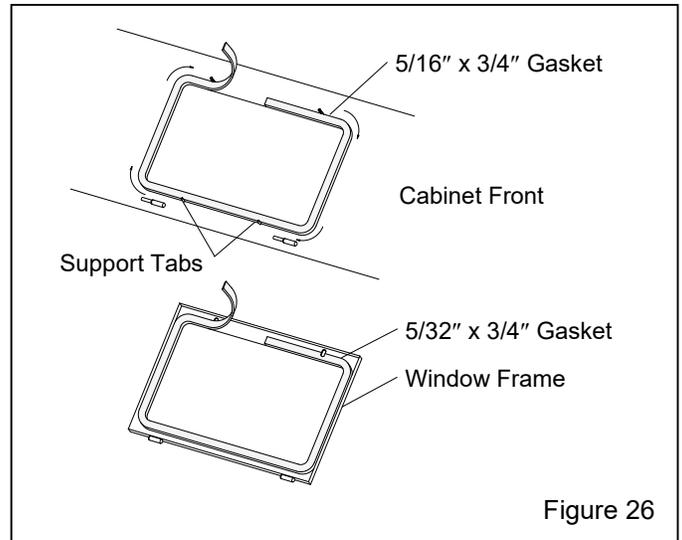

Figure 26
7.5 Window-Gasket Replacement – Figure 26
7.5.4 Peel a short section of adhesive backing from the 5/16"-thick strip gasket and adhere the gasket to the center of the top edge of the window opening, as shown in Figure 26. Peel additional backing as needed and work the strip around the radius of each corner, pressing it firmly to bond. Trim the gasket to fit and compress the ends to seal.